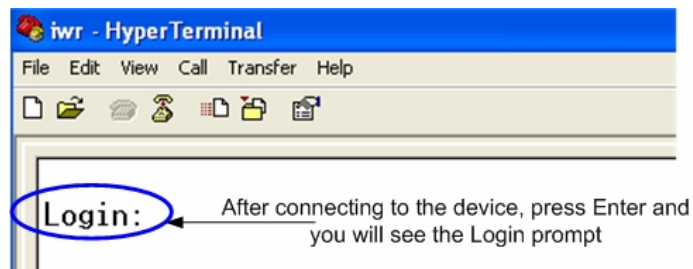

Figure 7. WANFlex OS prompt
- If you connected everything properly, selected the right port and made its configuration right, after pressing enter on the white blank screen (after step 8) you should see WANFlex OS prompt as shown on Figure 7